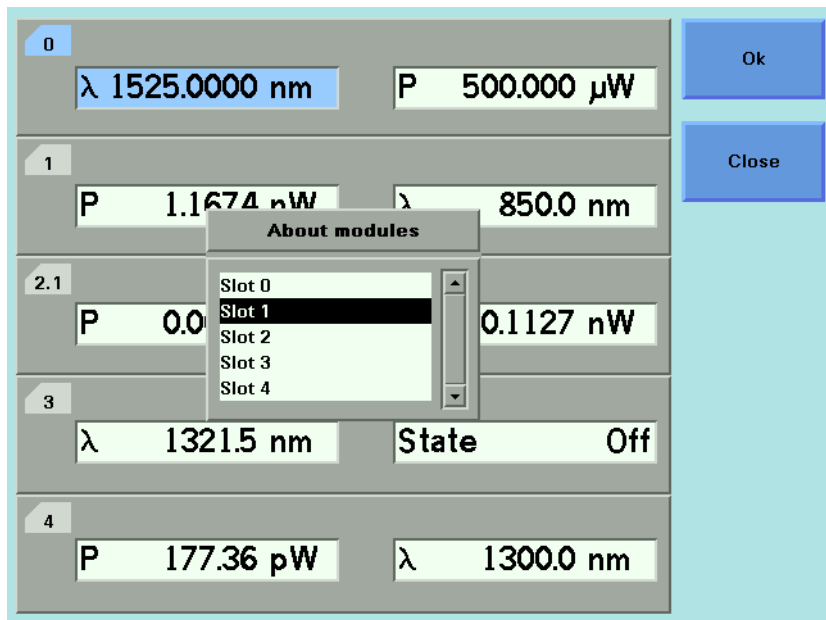

Figure 52 Slots with Installed Modules
- 2 Move to the *<About Modules>* menu option and press *Enter*. You see a box displaying the slots which have installed modules, see Figure 52.
- 5 Press [Close] to return to the menu in Figure 52 on page 92.